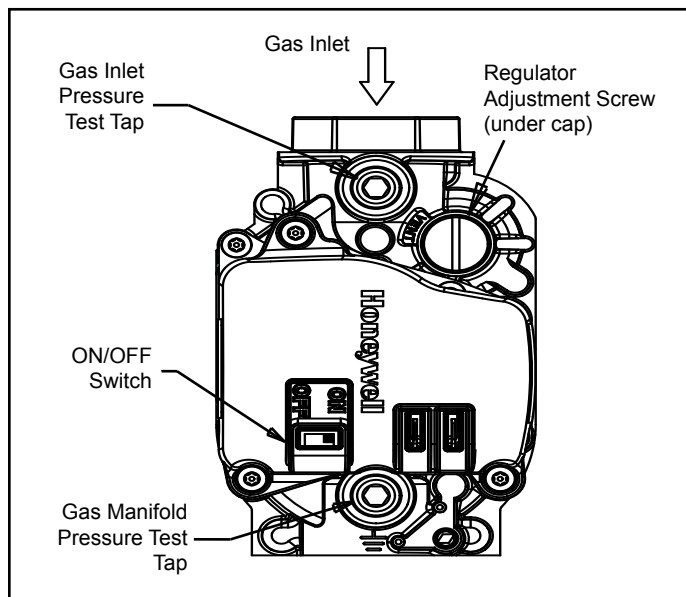

Figure 9. Gas Valve
3. Move the gas valve ON/OFF switch to the "ON" position (see Figure 9).
- Move the ON/OFF switch to the "OFF" position (see Figure 9).